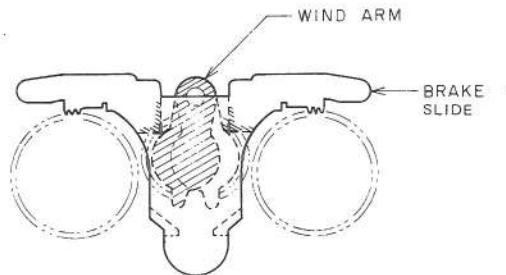

Fig. 5-7
c. The slide brake at the middle position (Refer to Fig. 5-7)